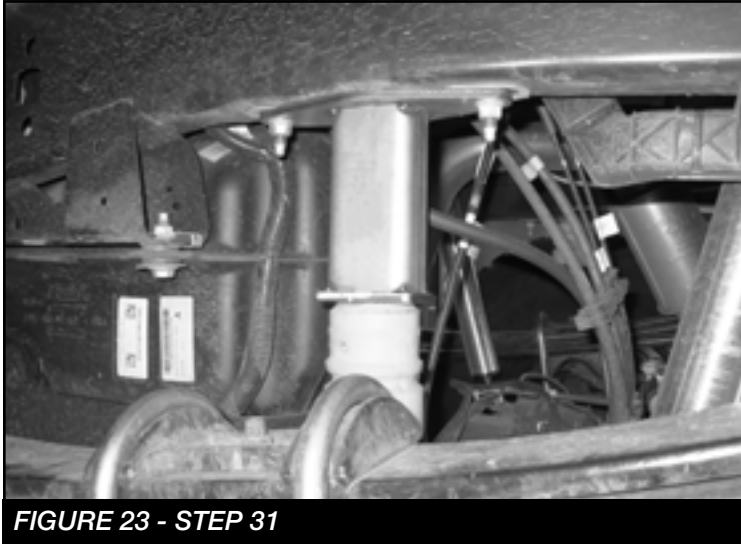

FIGURE 23 - STEP 31
31. **(5" BLOCK)** Remove the rear factory shocks, ubolts and blocks. Locate and install the 5" rear lift blocks (FTBK53) using the supplied u-bolts, nuts and washers. Align axle, lift blocks and springs and torque to U-Bolts to 170 ft-lbs. Remove the factory rear bumpstop assemblies from the frame. Save hardware. Remove the foam bump from the mount plate. Install the factory foam bumpstop to FT30891 (Bumpstop bracket) Torque to 40 ft-lbs. Then, install the assembly to the frame using the factory nuts. Torque to 70 ft-lbs. **SEE FIGURE 23**